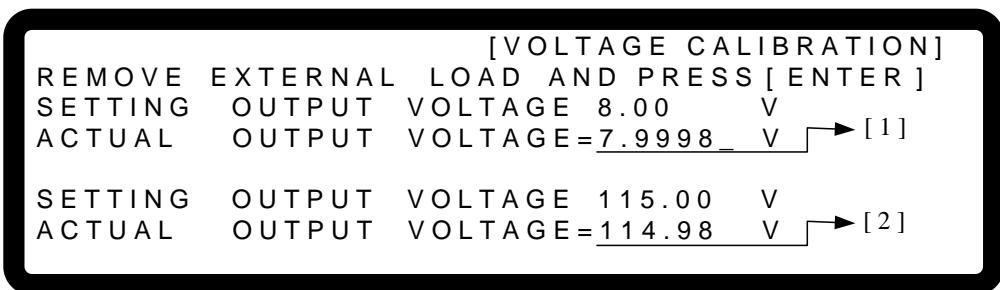

Figure 3-107
5. The low voltage range calibration is done first. The instrument will set the output voltage to 8.00V and the cursor stops at position [1] as shown in Figure 3-107. Enter the voltage measured by the DVM and press “” to confirm.
6. Press “” again to do the low voltage range calibration for the second point. The instrument will set the output voltage to 115.00V and the cursor stops at position [2] as shown in Figure 3-107. Enter the voltage measured by the DVM and press “” to confirm.
2. Remove the output load when performing the voltage calibration. The LCD panel will display the text as shown in Figure 3-107 and once no load is confirmed on the output, press “**ENTER**” to start the calibration.